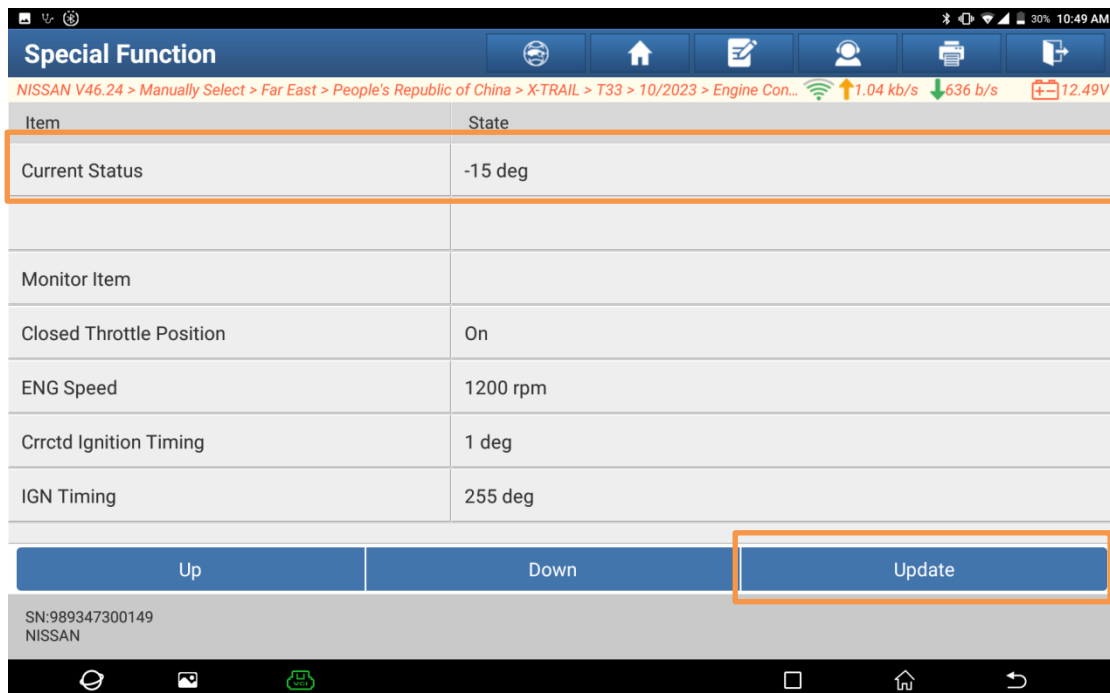

Figure 16
9. After confirming that the entered data is correct, click the [Update] button to adjust the ignition timing as shown in Figure 16.